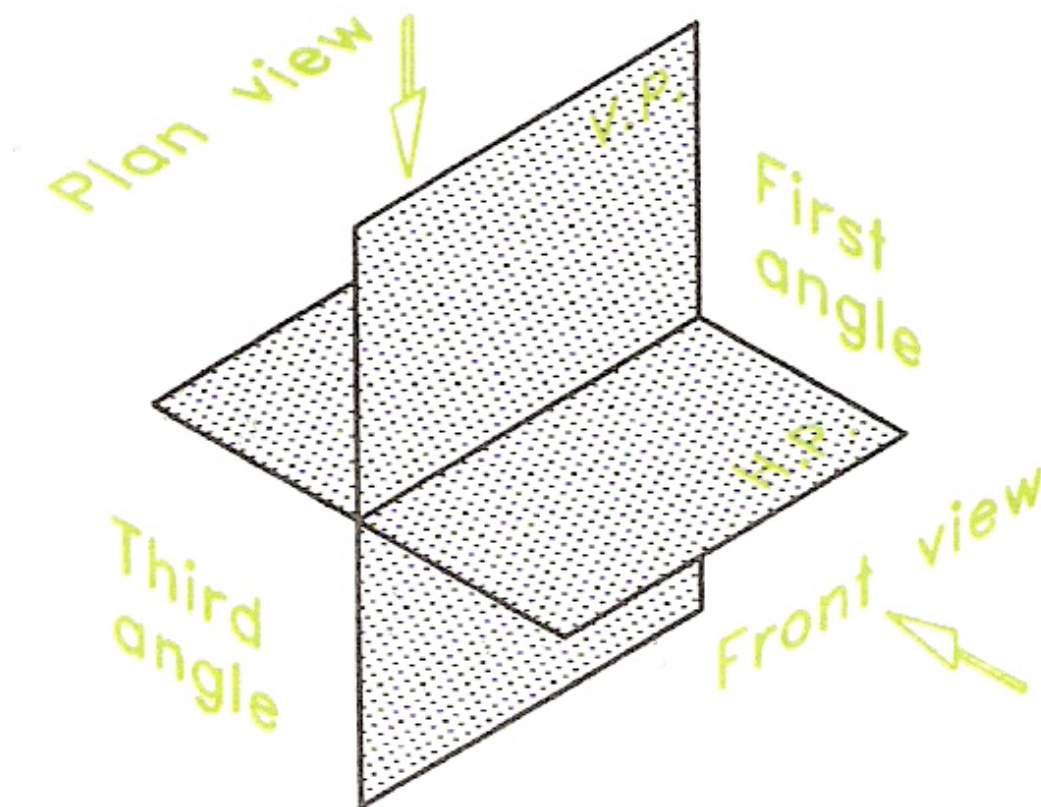
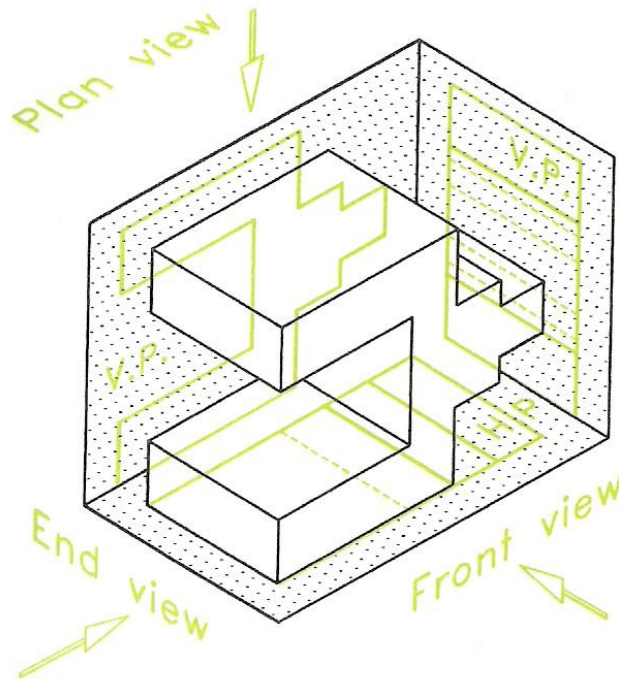

Figure 1 - Two Orthogonal Planes H.P. and V.P.
Figure 9 - Adding a Second V.P.
If a horizontal plane is crossed by a vertical plane, they must be at right angles to each other - they are orthogonal to each other. Orthographic projection is based upon orthogonal planes. A horizontal plane is usually called an H.P. A vertical plane is usually known as a V.P. Figure 1 shows an H.P. crossing a V.P. These planes form four angles - known as the First angle, the Second angle, the Third angle and the Fourth angle. In orthographic projection, only the First and Third angles are used.
1. Figure 9 shows the result of adding a second V.P. to the H.P. and V.P. shown in Figure 1 and projecting what is seen from looking in the direction labelled End view in Figure 9.